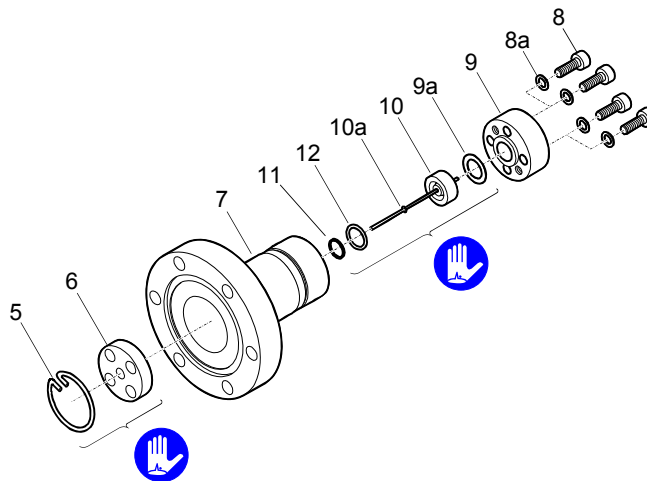

Figure 2b
- ① Insert the new metal seal (11) with the centering ring (12) centered into the measuring chamber. The sealing surfaces, seal and ceramic part must be clean (→ Figure 2b).
- ② Carefully insert the anode (10) incl. ignition aid (10a) into the measuring chamber.
- ③ Carefully place the washer (9a) and the pressure piece (9) on the measuring chamber and tighten them **uniformly** with the four hexagon socket screws (8) incl. the lock washers (8a) until the stop position is reached.
- ④ Position the ignition aid (10a) by pushing the mounting tool over the anode pin until the mechanical stop is reached.
- ⑤ Remove the particles in the measuring chamber with dry nitrogen (be careful to hold the measuring chamber with the flange pointing downwards).
- ⑥ Slide the polarity insert (6) into the measuring chamber up to the mechanical stop.
- ⑦ Place the circlip (5) snugly fitting on the polarity insert.